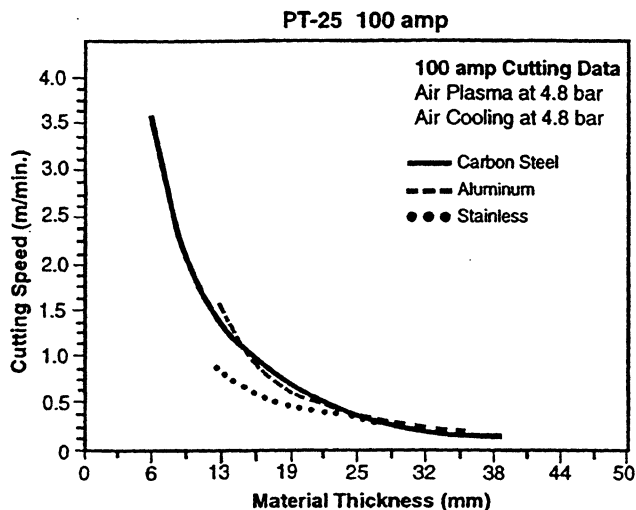

Figure 3-1. PT-25 Cutting Data, Air/Air
- l. Plasma Cutting Ability: See Figures 3-1 and 3-2.
Travel speeds for the PT-25 are given in the charts shown in figures 3.1 and 3.2.